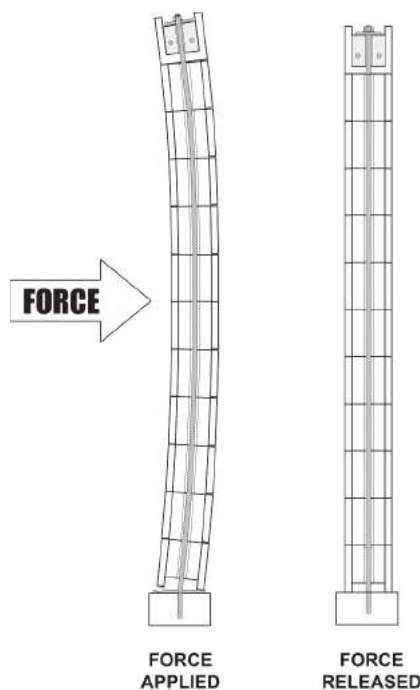

Fig. 1.12
1.11). When catastrophic forces are applied to a FlexLock® wall, the wall begins to deflect without losing its structural integrity (*Fig. 1.12*).